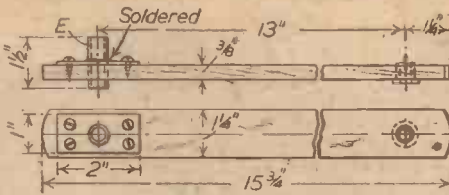

Fig. 7.—Details of the connecting rod.
The connecting rod is a planed oak strip finished to the dimensions given in Fig. 7 and afterwards slightly rounded at the ends. The holes at the top and bottom ends, to take the crank-pin and treadle pin respectively, are brass bushed, as indicated in the illustrations Figs. 5 and 7. The bush (E) for the crank-pin consists of a 1½in. length of stout brass tube, the bore of which is a good fit to the crank-pin. A piece of 3/32in. thick sheet brass, 2in. long and 1in. wide, has a hole drilled through the centre, a tight fit to the piece of tubing, which was pushed through and soldered to the plate, after adjusting for squareness. The hole in the wooden connecting rod is a tight fit for the bush, which is pushed in place and fixed with four round-headed iron screws, the holes for which having been previously drilled near the four corners of the brass plate. The ends of the bush are, of course, filed square.